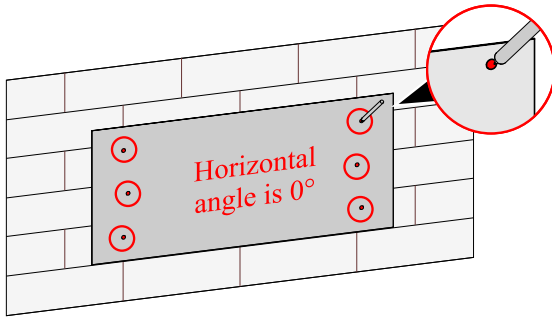

Figure 3-14 Mark the installation holes
1. Mark the installation holes, as shown in Figure 3-14.